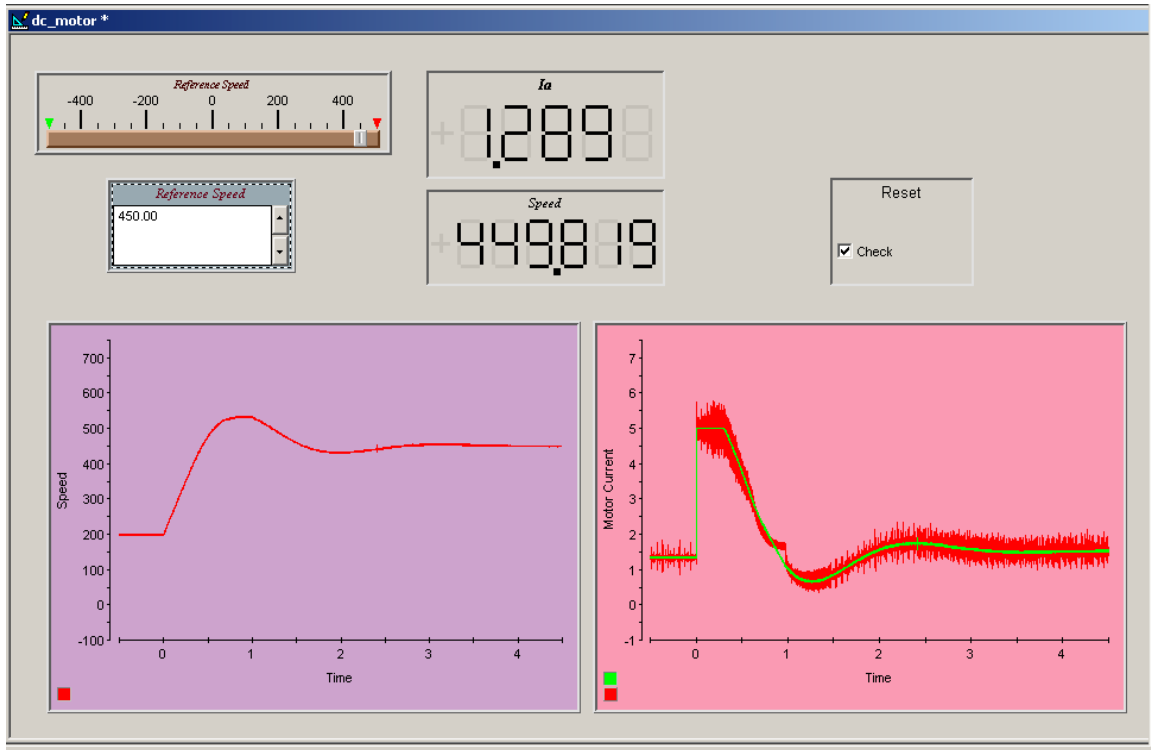

Figure 5.8: Control Desk interface for DC Motor control (Step change from 200 - 450 rad/s)
- Create a new Layout and add some controls as shown in Fig.5.8.